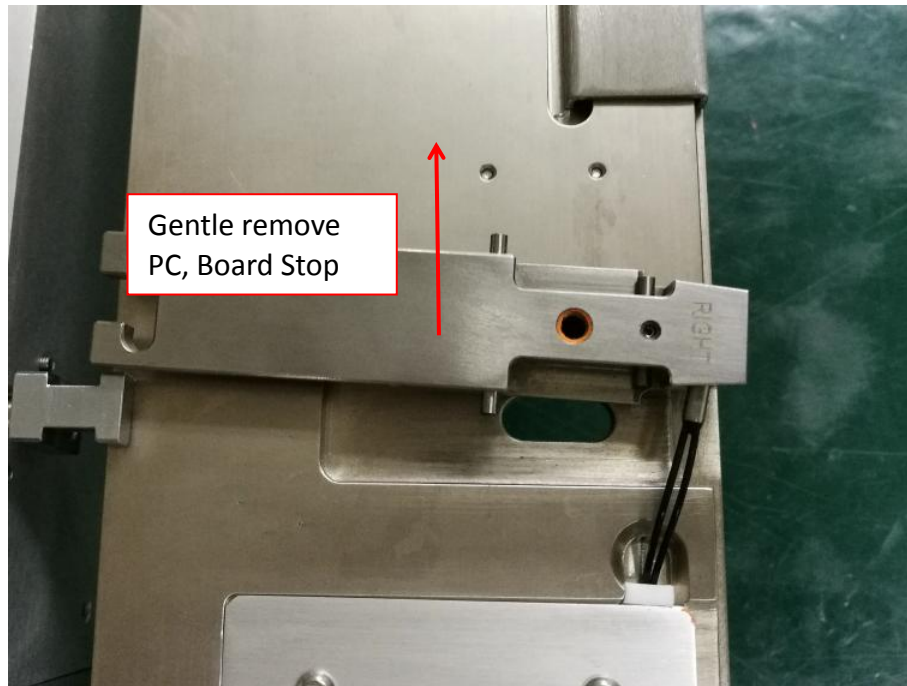

Figure 5 PC, Board Stop removal
8. Gently remove PC, Board Stop as shown in Figure 5.